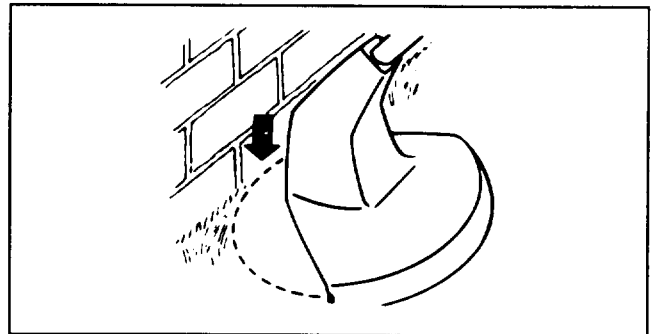

Figure 11
7. **DO NOT FORCE THE UNIT.** Allow the very *tip* of the nylon line to do the cutting (especially along walls) (Fig. 11). Cutting with more than the tip will reduce cutting efficiency and overload the motor.